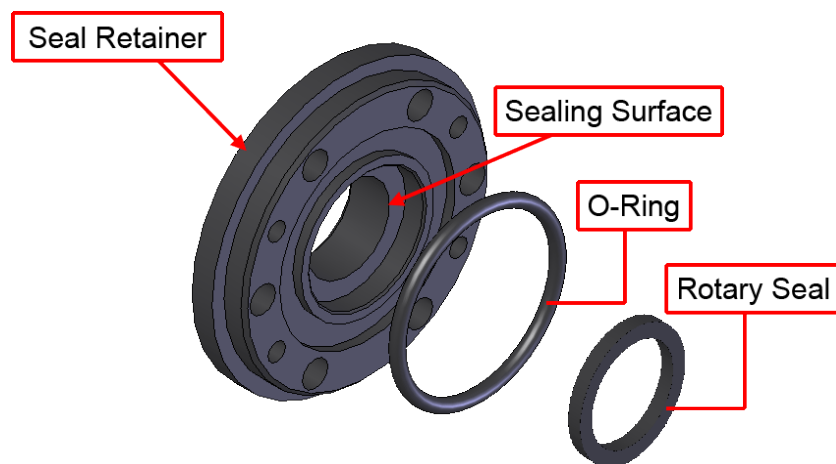
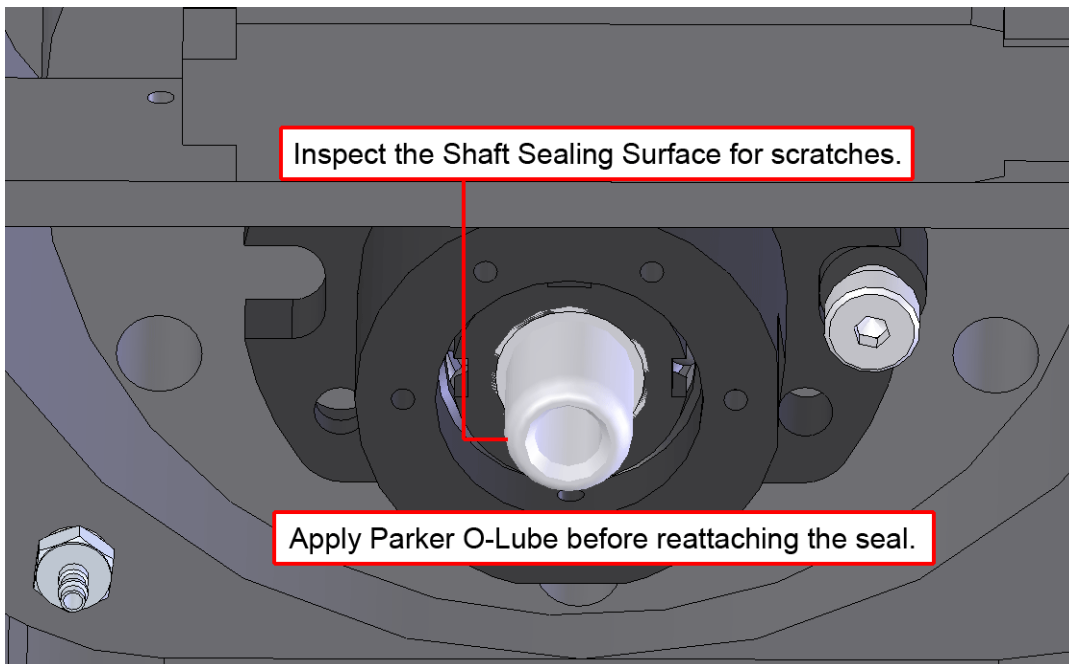

Figure 4-8: Seal Retainer Assembly
Figure 4-9: Wet Cut Rotary Union Shaft Inspection
Step 6: Pry the rotary seal from its housing using care not to damage the sealing surfaces (see Figure 4-8). Inspect the shaft and seal surface for scratches or nicks (see Figure 4-9). Small wear marks are normal. If the shaft and seal retainer sealing surface are undamaged, clean both the shaft and seal assembly surfaces with a lint-free rag and isopropyl alcohol.
- Step 9: Apply Parker O-Lube to the exposed end of the rotary union shaft as shown in Figure 4-9.